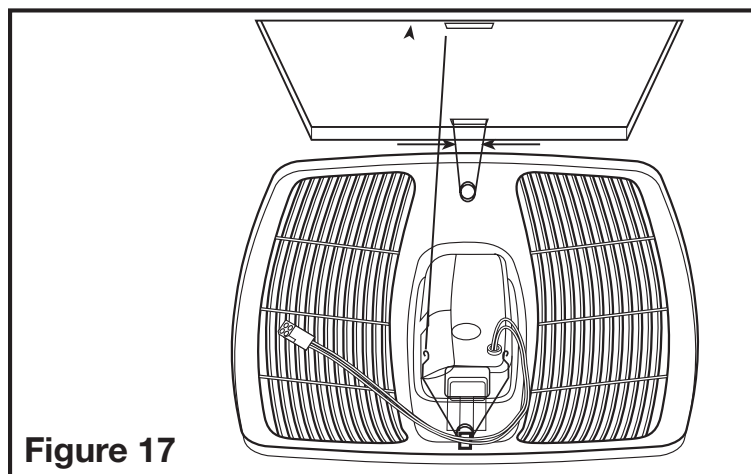

Figure 17
- 5a. **STANDARD AND HUMIDITY SENSING MODELS:** Install the grill by squeezing the springs together and installing it up into the slot furthest from the wire compartment on the fans housing. Attach the 4 pin quick connect from the grill to the 4 pin connector on the top of the wire cover. The cord will only fit one way into the receptacle. Install the other spring and push the grill up into position. (**Figure 17**).